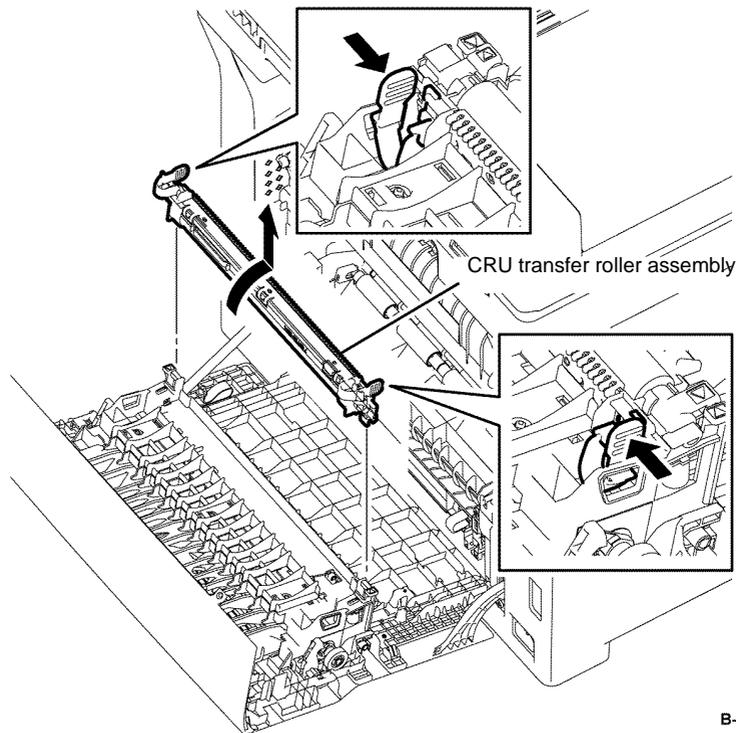

Figure 1 CRU transfer roll assembly removal
2. Release two hooks that fix the CRU transfer roller assembly, then remove the CRU transfer roller assembly by rotating it in the arrowed direction, Figure 1.